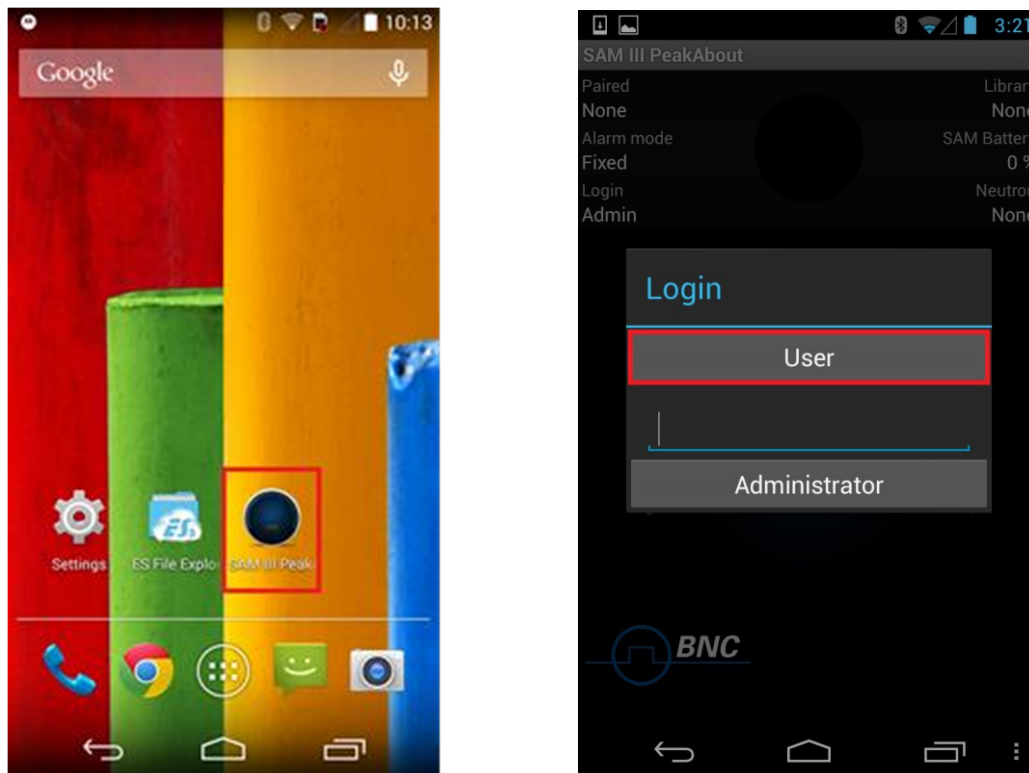

Figure 4.6. PeakAbout icon and login screen
2. Open PeakAbout by touching the **PeakAbout** icon on the Applications menu on the smartphone (Figure 4.6, left).
1. Log in as User (no password needed) or as Administrator (password protected) (Figure 4.6, right).